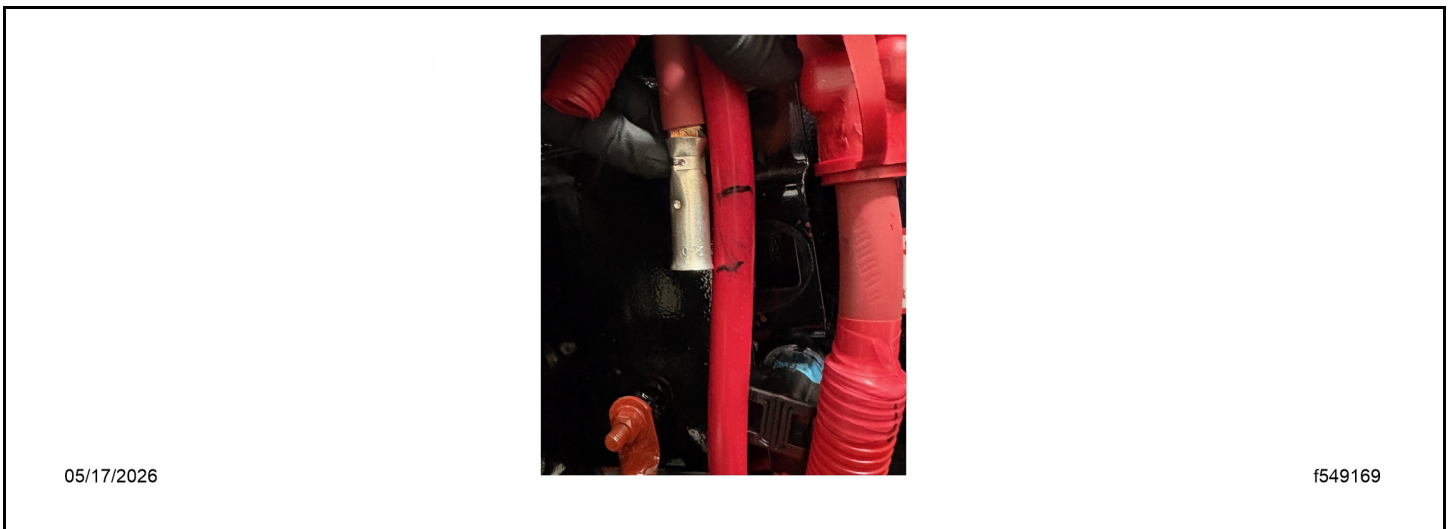

Fig 32, Determining the Starter Cable Length
35. Determine the ideal length for the new starter cable between the starter and butt connector. Cut the cable. See Fig. Fig. 32.